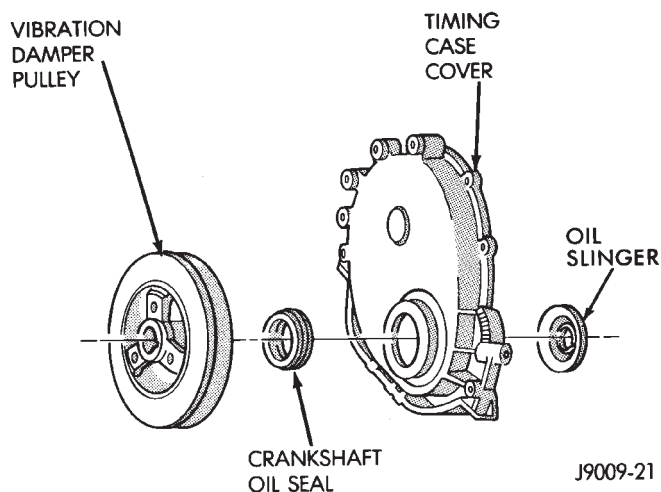

Fig. 39 Timing Case Cover Components
- (1) Disconnect negative cable from battery.
- (2) Remove the vibration damper.
- (3) Remove the fan and hub assembly and remove the fan shroud.
- (4) Remove the accessory drive brackets that are attached to the timing case cover.
- (5) Remove the A/C compressor (if equipped) and generator bracket assembly from the engine cylinder head and move to one side.
- (6) Remove the oil pan-to-timing case cover bolts and timing case cover-to-cylinder block bolts.
- (7) Remove the timing case cover and gasket from the engine. Make sure the tension spring and thrust pin do not fall out of the preload bolt.
- (8) Pry the crankshaft oil seal from the front of the timing case cover (Fig. 39).